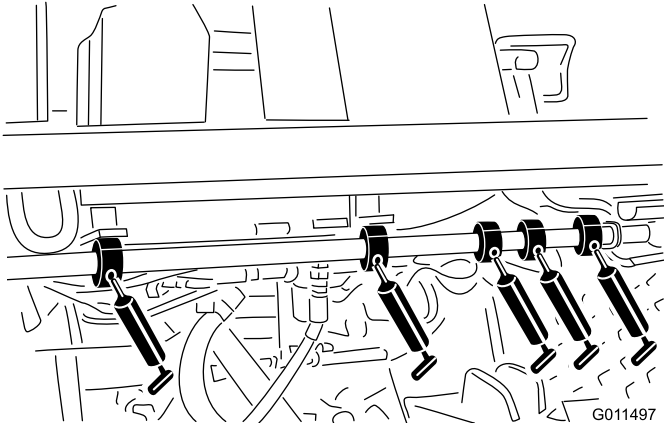

Figure 37
- Brake shaft pivot bearings (5) (Figure 37)